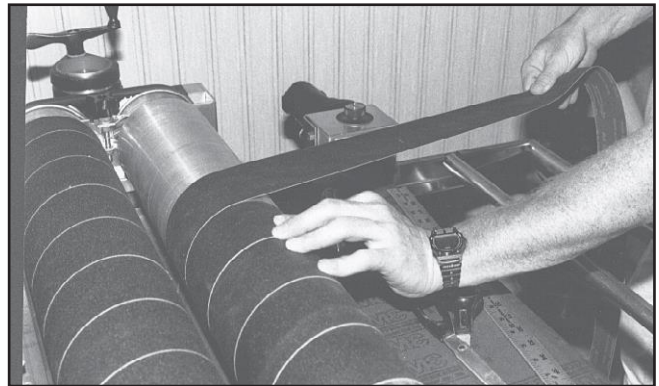

Fig. 16E Wrap strip around drum without overlap.
2. Wrap the strip around the drum, being careful not to overlap the windings. The tapered cut of the strip end should follow the edge of the drum. Continue to wrap the abrasive in a spiral fashion by rotating the drum with your left hand and guiding the strip with your right hand (Fig 16E). Successive windings of the strip should be flush with previous windings without any overlap.